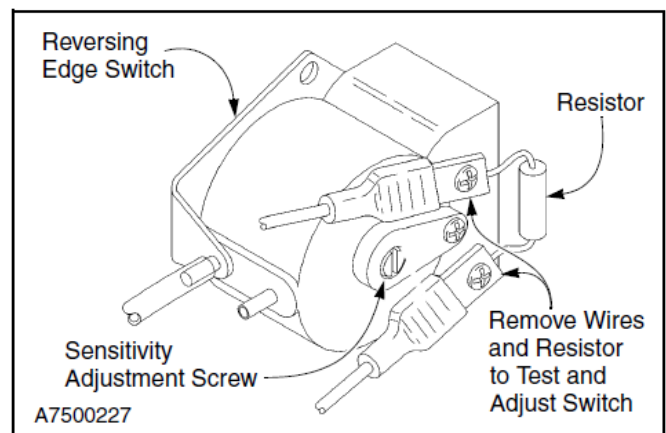

Figure 29
1. The reversing edge switch is a normally open contact. The PVC hose is on the lower air input post. To adjust the switch, first remove the wires and resistor from the contact terminals and attach an ohmmeter across the two terminals. (See Figure 29.)
2. Turn the adjustment screw, located on the face of the switch, clockwise or counterclockwise until continuity is achieved. Then turn the screw  $\frac{3}{4}$  turn counterclockwise. Ohmmeter should no longer show continuity. Turning the screw counterclockwise decreases sensitivity. Turning the screw clockwise increases sensitivity. (See Figure 29.)